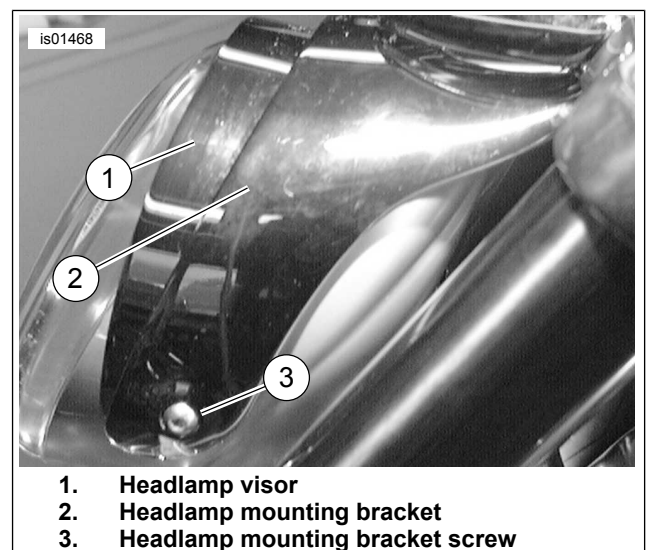

Figure 2. Install Visor Between Headlamp and Mounting Bracket (Left Side Shown)
3. See Figure 2. Orient the headlamp visor (1) between the headlamp and headlamp mounting bracket (2) and reinstall the headlamp bracket mounting screws (3) securing the visor and headlamp to the headlamp mounting bracket.